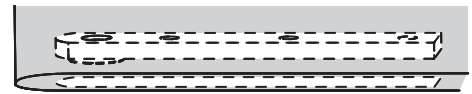

Figure 5
3. Install door arm in bottom of door using three (3) 1/4-20 x 3/4" FHMS or #14 x 1-1/2" FHWS. (Figure 5)